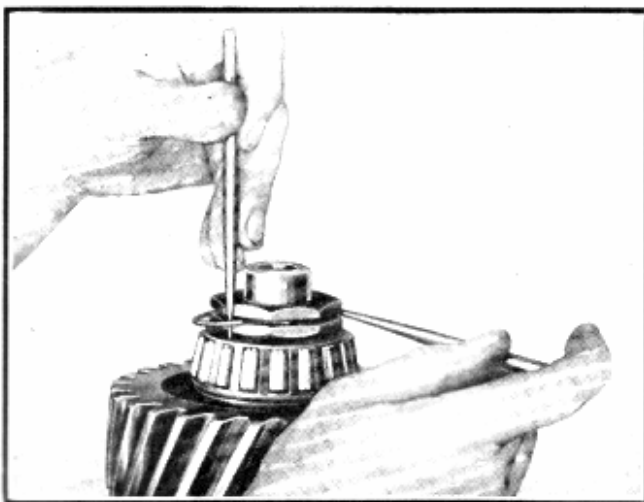

Fig. 4—Removing Bearing Lock Nut Snap Ring
1. The mainshaft rear bearing nut (50) is held with a lock wire (49). Remove the lock wire as is shown in Fig. 4, and then remove the nut.